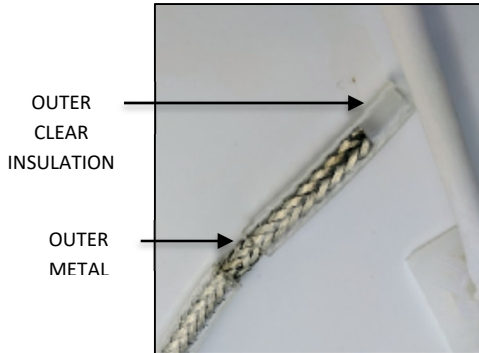
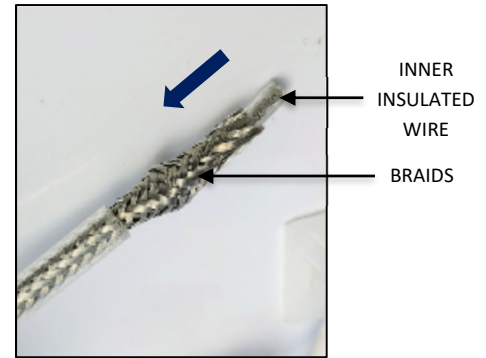

FIG. 33
FIG. 34
- Strip off 1.00" of outer clear insulation exposing the outer metal braiding as shown in FIG. 33 below. **Be careful not to cut or damage the outer metal braiding.** Gently push braiding down to loosen the individual braids exposing the inner insulated wire as shown in FIG. 34 below.